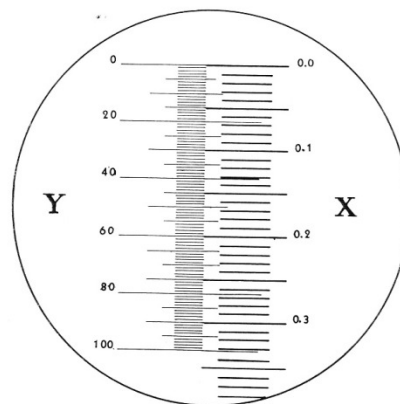

Figure 4
The value of the eyepiece micrometer scale varies with the optical combination used. Consequently, the scale must be calibrated before accurate measurements can be made. To calibrate, focus on a stage micrometer and move it until one of the principal graduations corresponds exactly with one of the divisions of the eyepiece scale. (See Figure 4.) The true distance (X) seen on the stage micrometer, which corresponds to the number of divisions (Y) of the eyepiece scale, is then read. Divide this true distance by the number of divisions of the eyepiece scale to find the distance each division subtends ($C = X/Y$). The number of divisions covered by the specimen multiplied by the calibration constant (C) gives the length of the specimen.